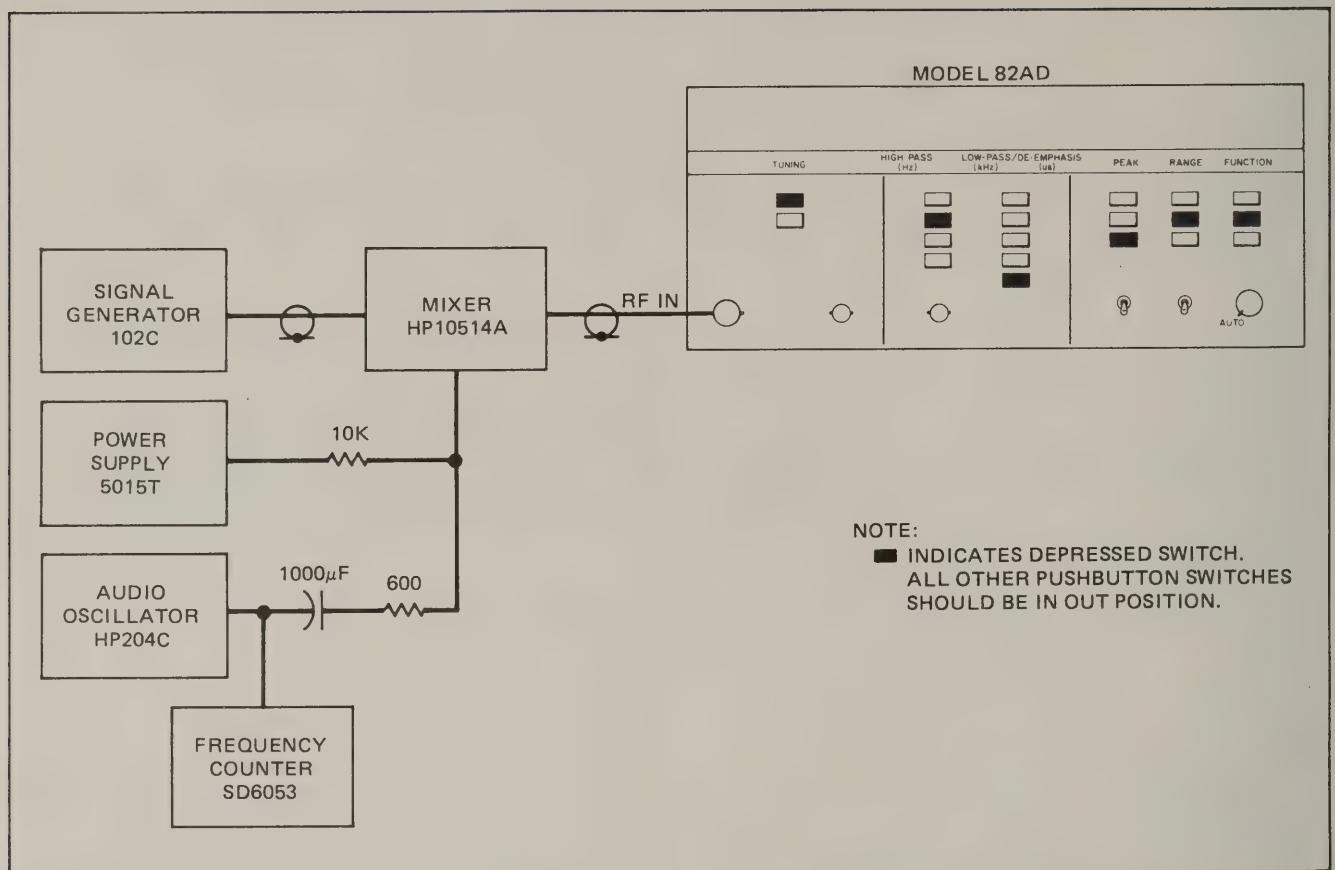

Figure 2-21 Low Pass, 200 kHz, AM Audio Frequency Response Check, Test Setup
- a. Connect the Model 82AD and test equipment as shown in Figure 2-21.
- c. Set the Model 82AD LEVEL control to the AUTO position, and depress the Model 82AD switches indicated in Figure 2-21.